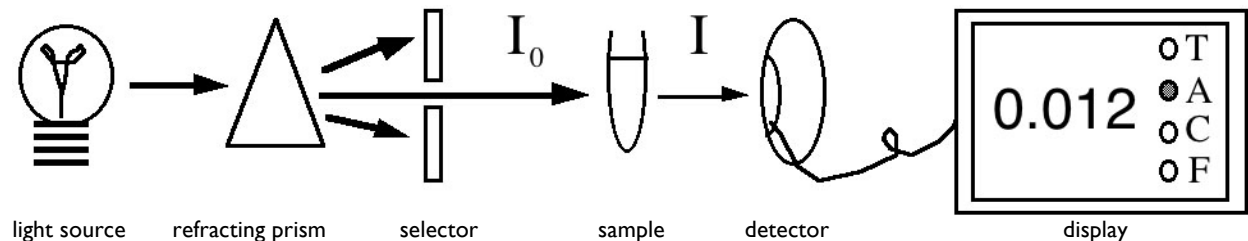
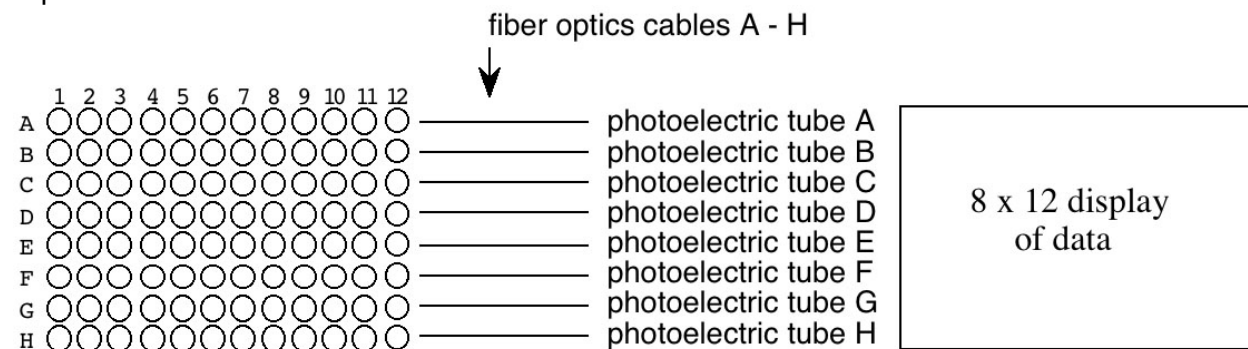

Figure 1. A schematic diagram of the components of a spectrophotometer. The arrows indicate the pathway of light.
Figure 2. Schematic diagram of a microplate reader. Samples are placed in the 96 microwells, analyzed by the eight channel spectrophotometer.
A spectrophotometer consists of a white light source (light of all visible wavelengths), a prism or diffraction grating that separates the light into different wavelengths, a slit through which a narrow beam of the desired wavelength (I) passes (the incident light, I_0), a sample solution holder, a photosensitive detector that measures the energy of light transmitted through the solution (I), and a recording device that displays the amount of transmitted light energy digitally or on a dial. See Fig. 1 below.
Figure 1 is a simplified diagram of a spectrophotometer that can measure one sample at a time. In our experiments, we will be using a microplate reader that is capable of measuring the absorbance of 96 samples in just a few seconds. The basic design is exactly the same; a selected wavelength of light passes through the samples and a phototube measures the amount of light transmitted through the sample, which the plate reader converts to absorbance. However, the samples are located in microwells that are arranged in an 8 x 12 matrix in one plastic plate (see figure 2). You can put your samples in any or all of the microwells. The plate is moved over an array of eight fiber optic light sources and eight phototubes. Each row of eight is scanned and then the plate advances by one row and the process continues until all 12 rows are scanned. The absorbance data are then displayed on a screen in an 8 x 12 array. You also can program the plate reader to measure the absorbance of all 96 samples at time intervals of your choice (e.g., every 30 seconds). You should take advantage of these capabilities when you design your experiments for next week.